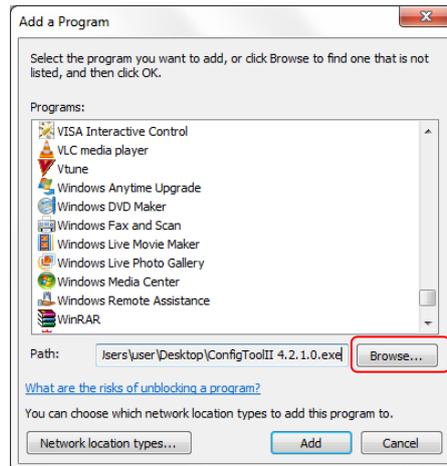

Figure 6 - Browsing for executable to add
5. Click the “Browse...” button. Refer to Figure 6.